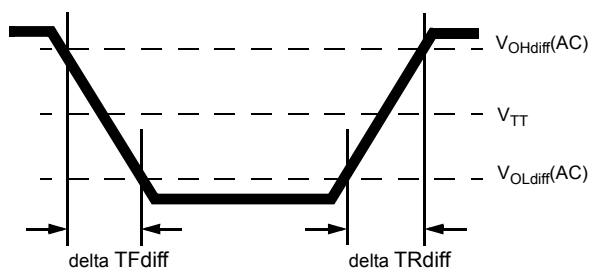

Figure 7. Differential Output Slew Rate Definition
With the reference load for timing measurements, output slew rate for falling and rising edges is defined and measured between VOLdiff(AC) and VOHdiff(AC) for differential signals as shown in Table 13 and Figure 7.